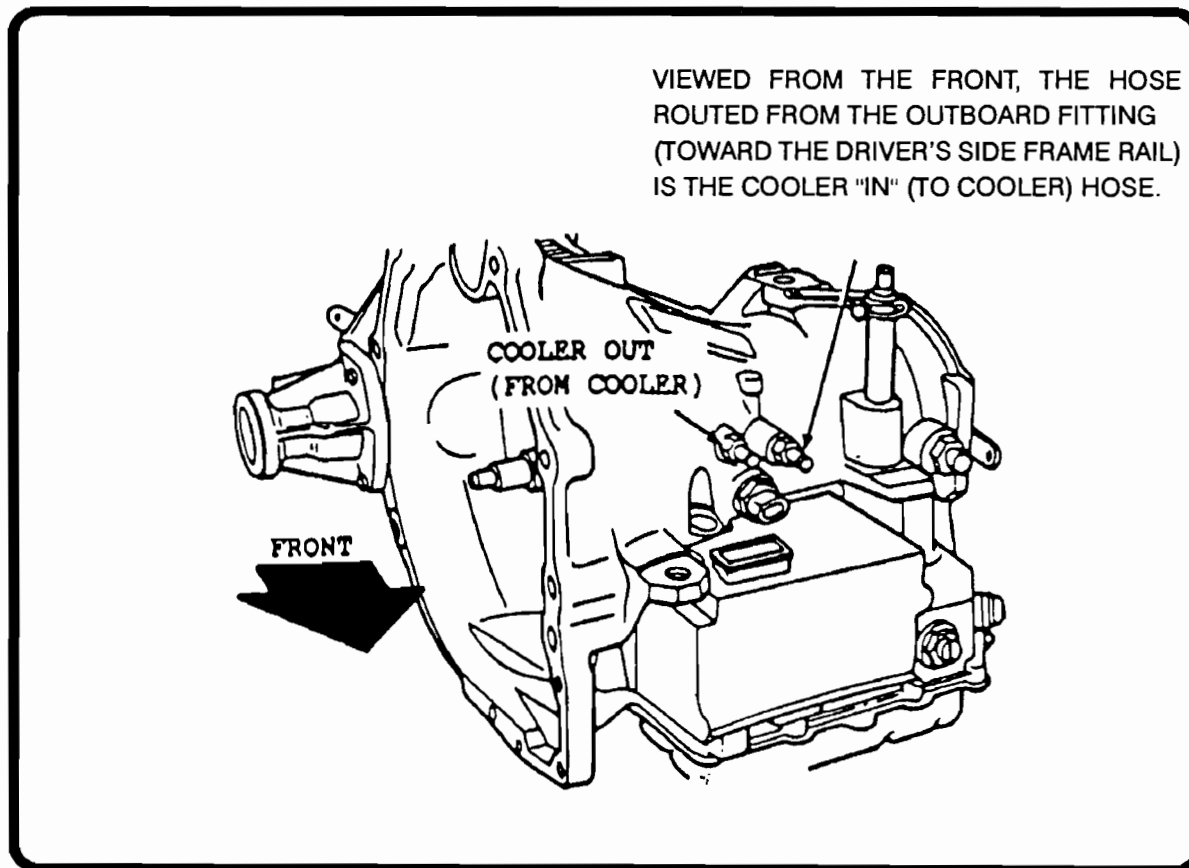

Figure 55
4. Referring to Figure 55, follow the cooler hoses routed from the transaxle to CLEARLY IDENTIFY THE COOLER "IN" (TO COOLER) HOSE.